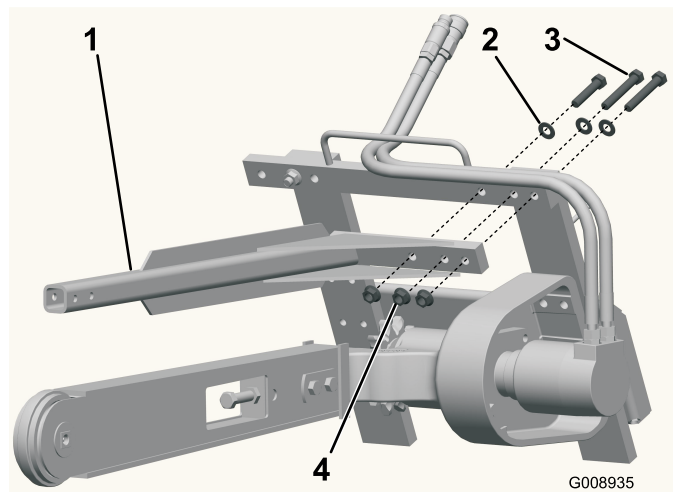

Figure 4
2. Using the fasteners removed previously, install the trencher safety bar as illustrated in (Figure 4).
1. Remove the 3 bolts, washers, and flange nuts from the upper left corner of the trencher frame (Figure 4).